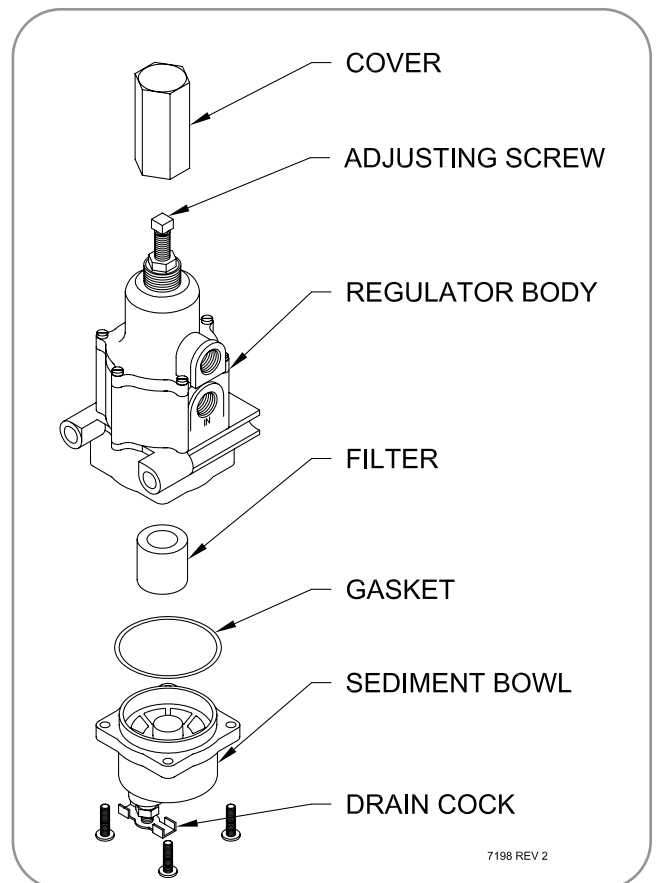

Figure 22 Fuel Regulator
- 4) Remove the four socket cap screws from the bottom of the regulator. Remove the bottom, complete with the rubber gasket (see Figure 22).